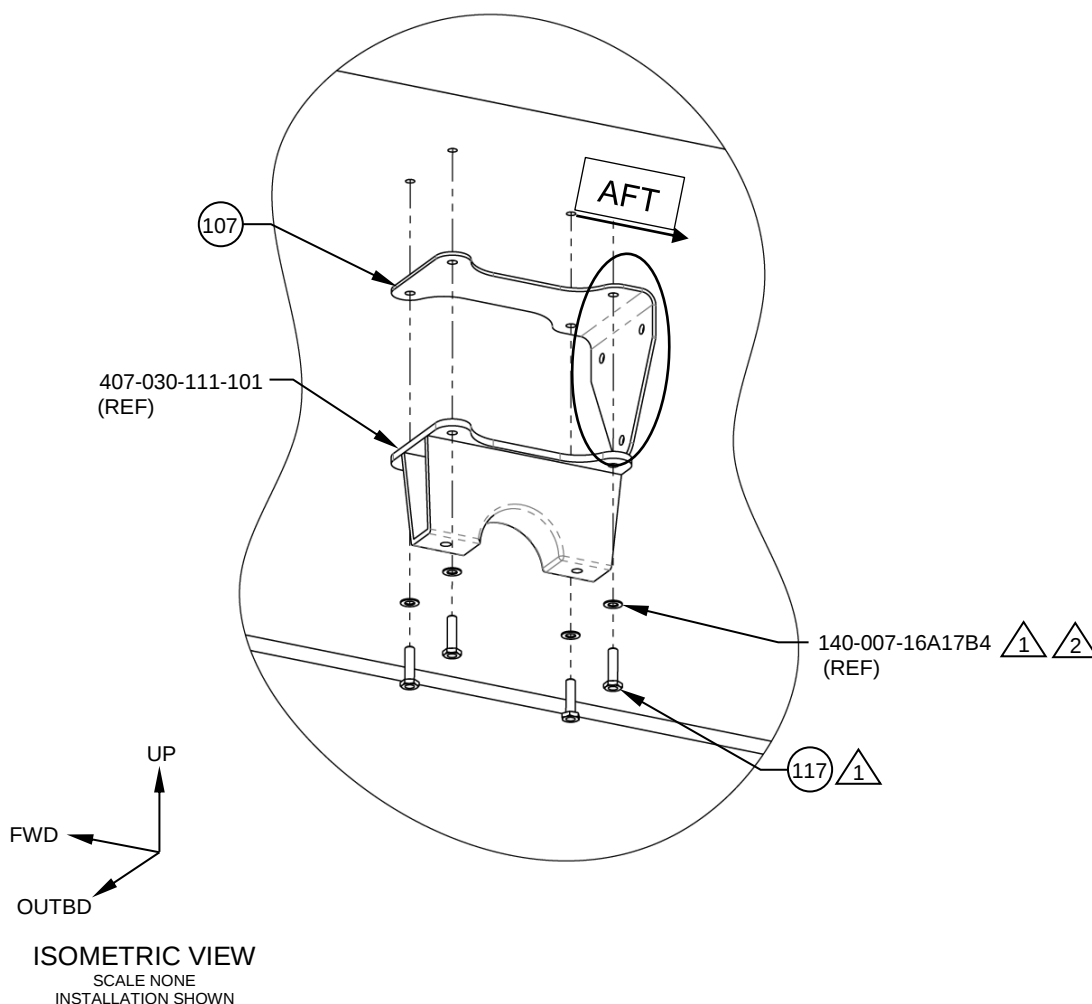

Figure 2
4. Locate 2X FWD Attachment Bracket (Item 107) between the fittings and fuselage, as shown in Figure 2. Use the provided 8X Bolt, Machine (Item 117) from the BELL 407 Utility Basket, Kit, along with 8X Washer (140-007-16A17B4) removed in Step 2, in the order shown in Figure 2, to install the fittings and brackets to the fuselage.